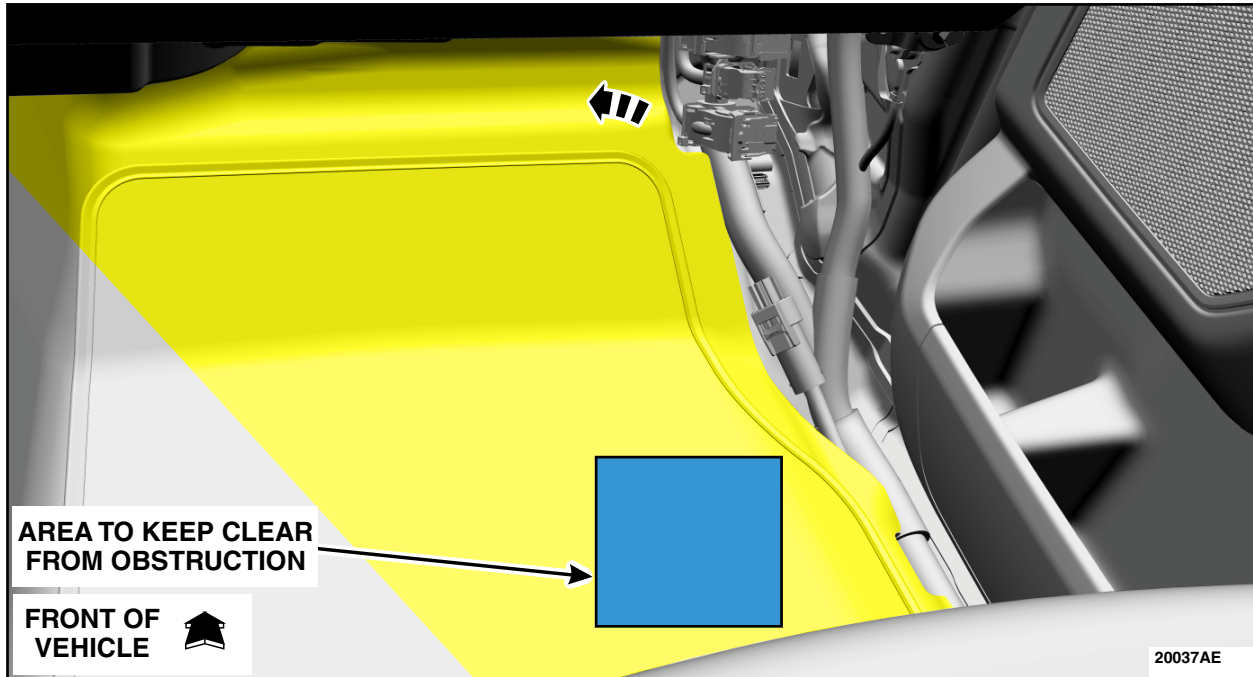

FIGURE 15
19. Position aside the RH carpet to expose the floorboard. Use a block of wood or similar device to retain the carpet away from the area to be clear of obstruction. See Figure 15.